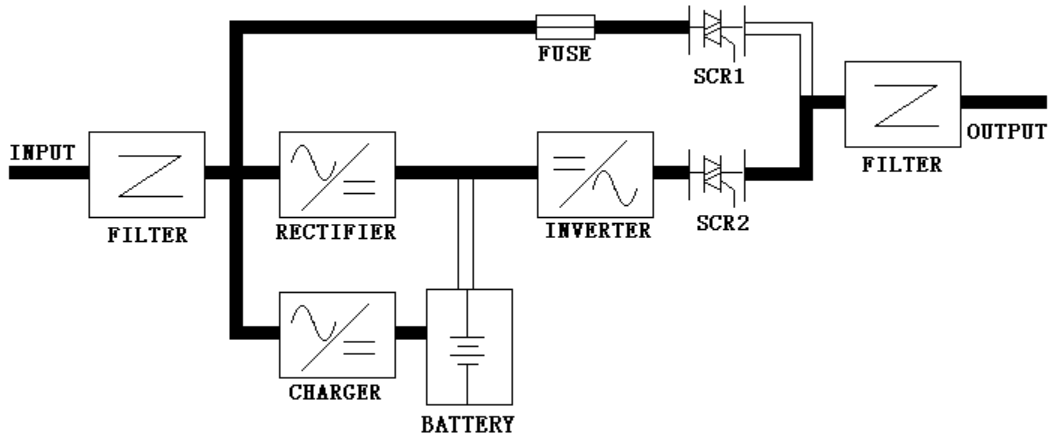

Fig36
1). Put switch on auto mode, when UPS normal running, filter get rid of high-step noise, one way to charge battery , another to supply for user's equipment with pure sine wave Via SCR2. AS fig 36